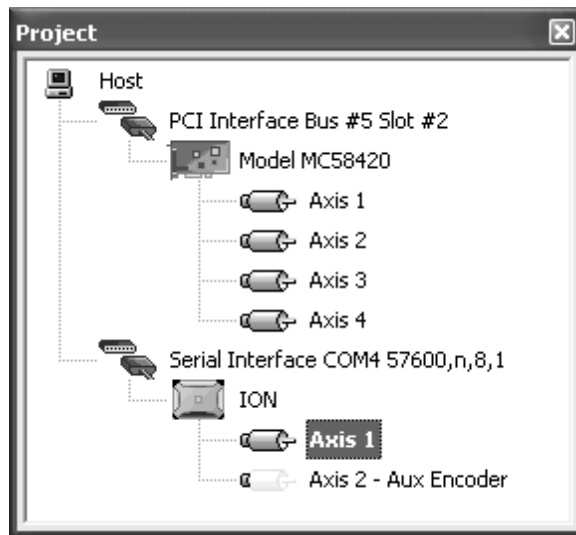

Figure 2-4:
- 1 In the Project window (Figure 2-4), select the axis you want to set up.